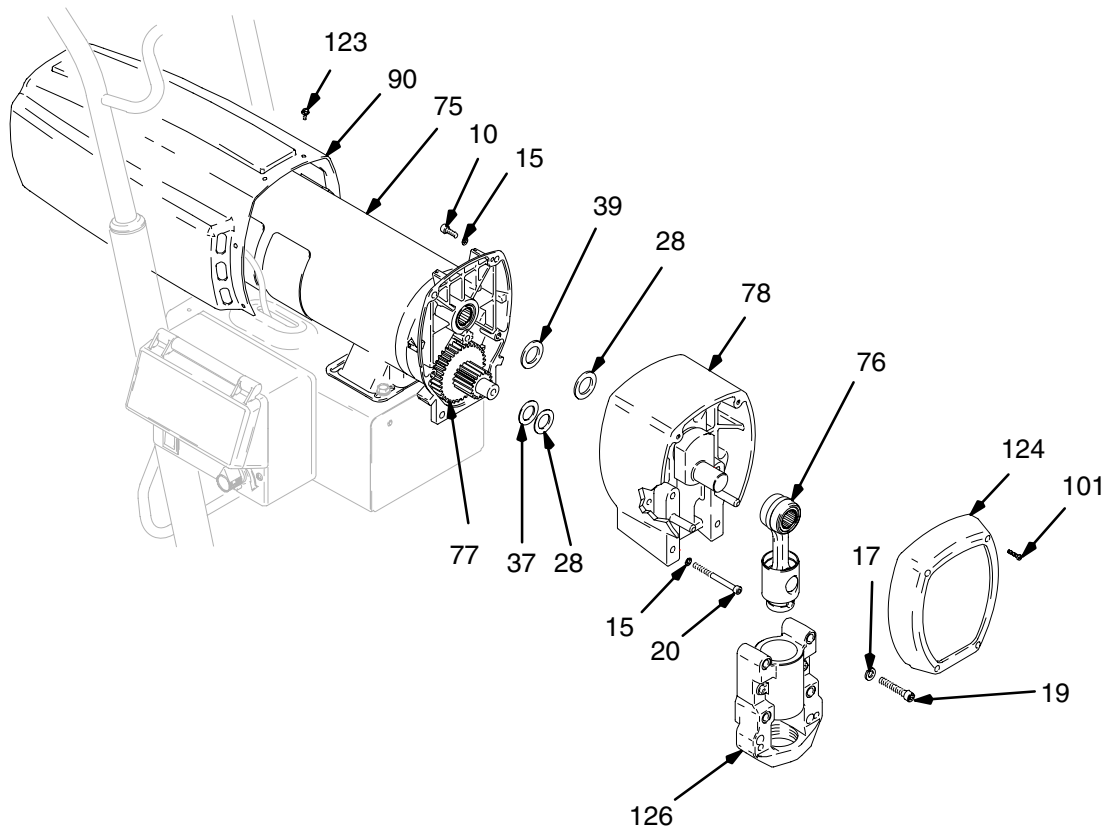

Fig. 7
2. Remove pump (79); **Displacement Pump Replacement**, page 21.
3. Fig. 7. Remove six screws (123) and remove motor shield (90).
4. Remove four screws (10) and washers (15).
5. Remove four screws (101) and front cover (124).
6. Remove four screws (19) and washers (17) and bearing housing (126) from drive housing (78).
7. Remove two screws (20) and washers (15) and pull drive housing (78) off of motor (75).
1. Fig. 7. Apply grease liberally to washers (28, 37, 39, 40), all gears and inside drive housing (78).
2. Push drive housing (78) onto motor (75) and install with two washers (15) and screws (20).
3. Install bearing housing (126) on drive housing (78) with four screws (19) and washers (17).
4. Install front cover (124) and four screws (101).
5. Install washers (15) and four screws (10).
6. Install motor shield (90) with six screws (123).
7. Install pump (79); **Displacement Pump Replacement**, page 21.